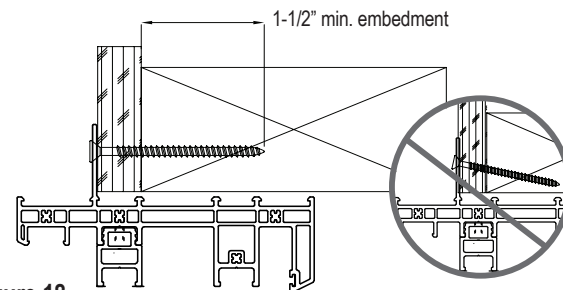

Figure 18
D) Keeping both panels in place, secure the door with fasteners of a type appropriate for the frame and that penetrate the rough framing by a minimum of 1 1/2" or as required by code. **See Figure 18**